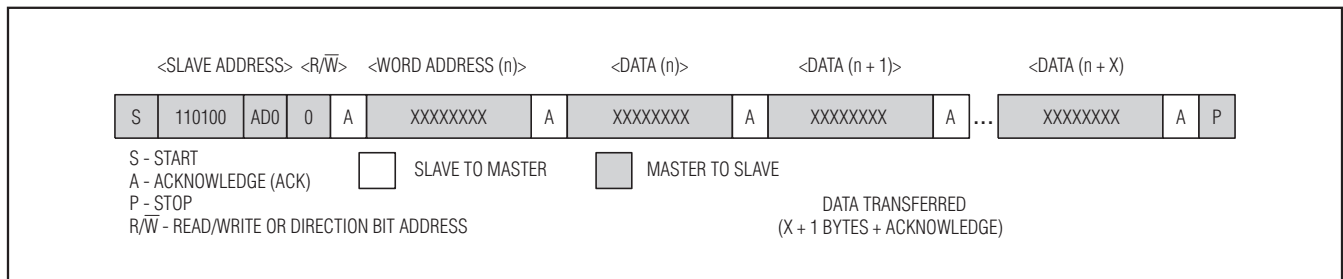

Figure 6. Data Write—Slave Receiver Mode
- 1) **Slave receiver mode (DS1372 write mode):** Serial data and clock are received through SDA and SCL. After each byte is received an acknowledge bit is transmitted. START and STOP conditions are recognized as the beginning and end of a serial transfer. Address recognition is performed by hardware after reception of the slave address and direction bit (see Figure 6). The slave address byte is the first byte received after the master generates the START condition. The slave address byte contains the 7-bit DS1372 address, which is 110100 and AD0. Each slave address is followed by the direction bit ( $\overline{R/W}$ ), which is zero for a write. The bit position signified by A is compared to the value on the AD0 input pin. After receiving and decoding the slave address byte, the device outputs an acknowledge on the SDA line. After the device acknowledges the slave address and write bit, the master transmits a register address to the device. This sets the register pointer on the device. After setting the register address, the master then transmits each byte of data with the DS1372 acknowledging each byte received. The master generates a STOP condition to terminate the data write.